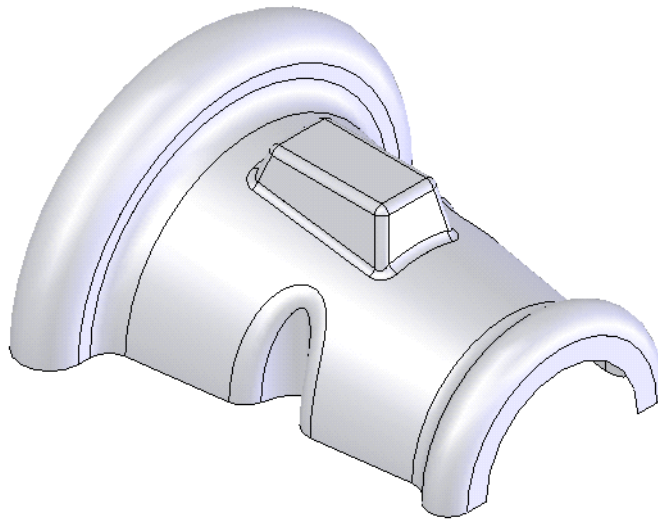

Figure 15-114 Final surface model
- i. Add the fillets to the surface model, refer to Figure 15-114.
Next you need to add the required fillets. The final surface model after adding fillets is shown in Figure 15-114.